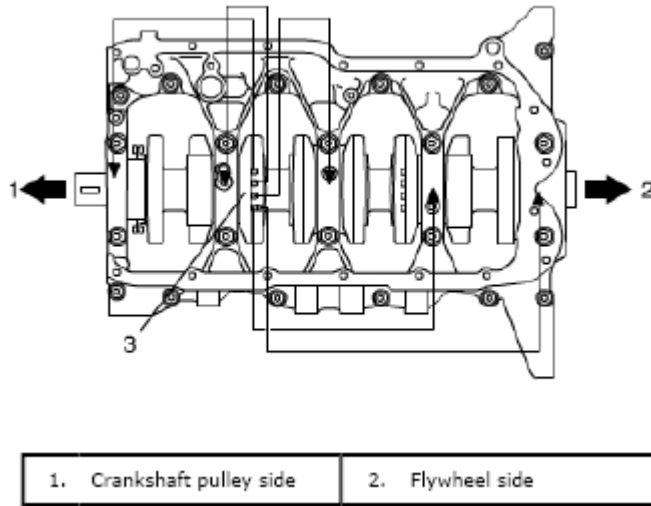

Fig. 190: Identifying Stamped Numbers On Crank Web
- First check journal diameter. As shown in **Fig. 190**, crank web No. 2 has stamped numbers.
Stamped numbers on crank web No. 2 (3) represent journal diameters marked with an arrow in **Fig. 190** respectively.